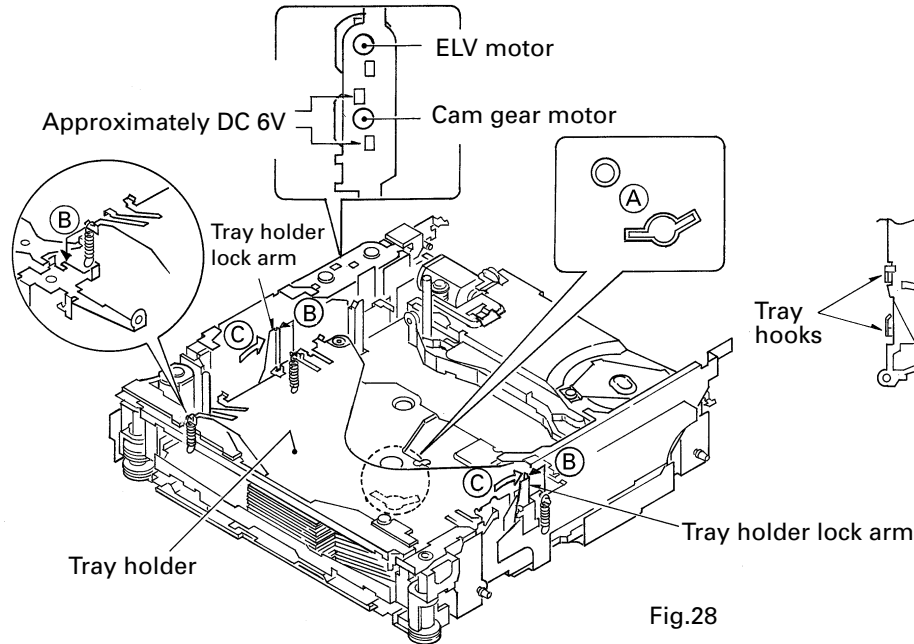

Fig.28
1. Apply about 6V current to the Cam gear motor until all holes match at the position (A) (elevation OK position).
2. Hook the three springs B temporarily as shown in Fig. 28. While pushing the Tray holder lock arms (right
1. Remove the Tray holder and the Tray assy. (See Fig. 28)